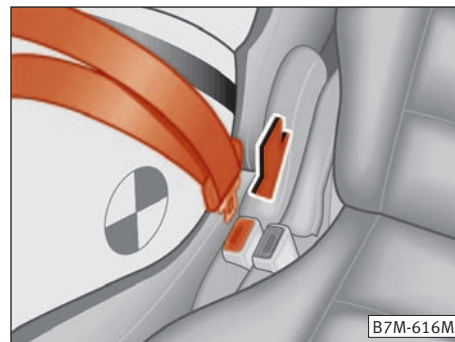

Fig. 16
- Now, pull the other lock flap with your left hand over your waist and into the left hand-side lock of the seat ⇒ fig. 16.